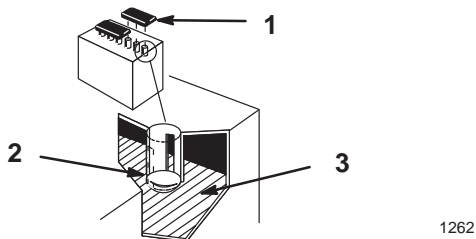

Figure 22
1. Open covers to see into the cells. The electrolyte must be up to the lower part of the tube (Fig. 22).
IMPORTANT: Do not allow the electrolyte to get below the plates. (Fig. 22).
2. Lift off the filler caps (Fig. 22).
3. Slowly pour distilled water into each battery cell until the level is up to the lower part of the tube (Fig. 22).